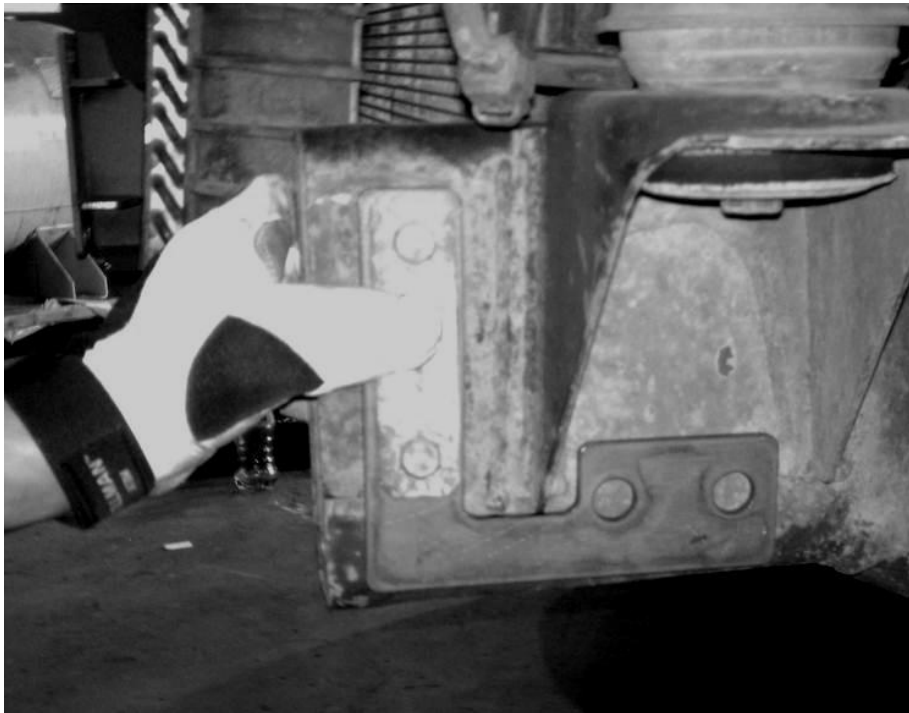

Figure 3 - DRILLING TEMPLATE
8. Install drilling template using the OEM bolt strip (Figure 3). **Note: From now on install the bolt strip from outside to in.**